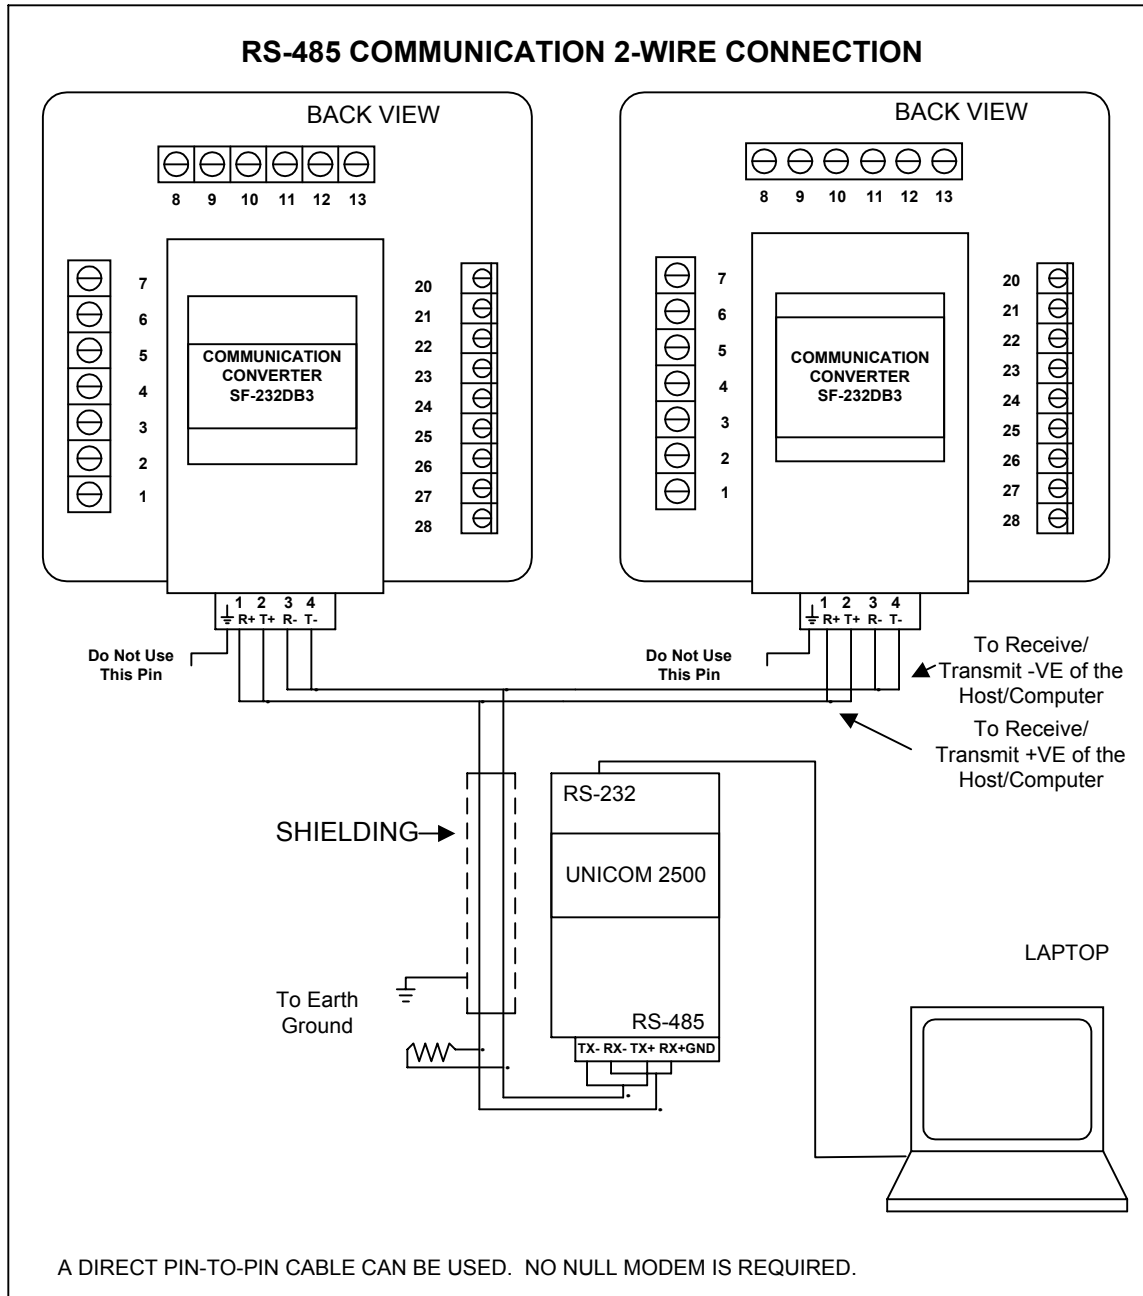

Figure 4.2: 2-Wire RS-485 Communication Hookup Installation
- When only 2 wires are used (on the RS-485), the link can include up to 30 instruments (See Figure 4.2).